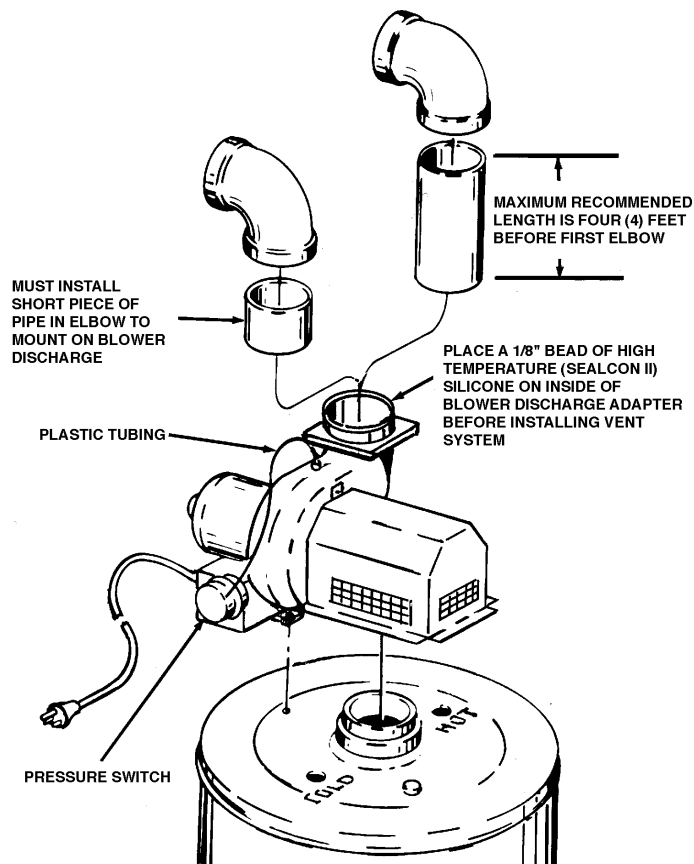

FIGURE 6
- Layout the total vent system to use a minimum of vent pipe and elbows. Take into consideration that an elbow will be necessary to make the first vent pipe connection to the power venter outlet (see Figure 6).
- This water heater is capable of venting the flue gases the equivalent of thirty (30) feet of 3 inch pipe or sixty (60) feet of 4 inch pipe as listed in Table 1.
- The blower discharge adapter is made to accept only straight sections of 3" pipe. To start a minimum of 2 inches of 3" pipe must be glued into the blower discharge (See figure 6).
5. The blower discharge adapter is made to accept only straight sections of 3" pipe. To start off with an elbow, a short section of the furnished pipe, a minimum of 2 inches, must be cut and glued into the end of the elbow that will mount on the discharge adapter (see fig. 6).